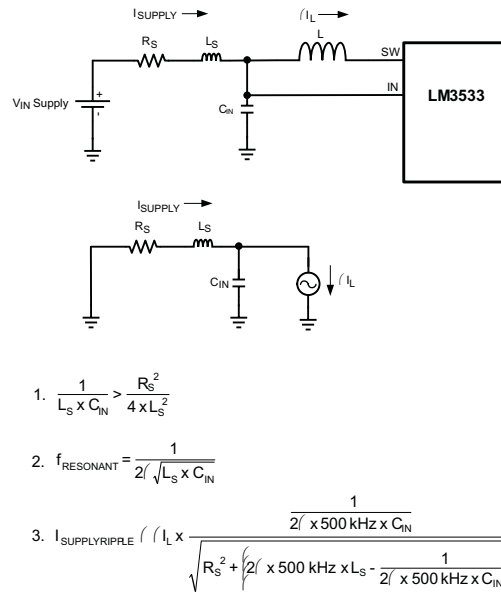

Figure 56. Input RLC Network
- Figure 56 shows the series RLC circuit formed from the output impedance of the supply and the input capacitor.